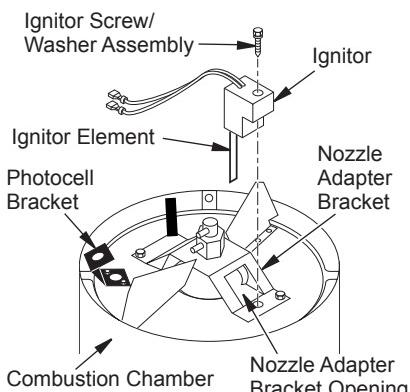

Figure 18 - Ignitor Replacement
6. Remove combustion chamber. Stand combustion chamber on end with nozzle adapter bracket on top (see Figure 18).
9. Carefully guide ignitor into opening in nozzle adapter bracket. Do not strike ignitor element. Attach ignitor to nozzle adapter bracket with screw using a 1/4" nut driver (see Figure 18, page 11). Torque 8 to 15 in. lbs. Do not over torque.